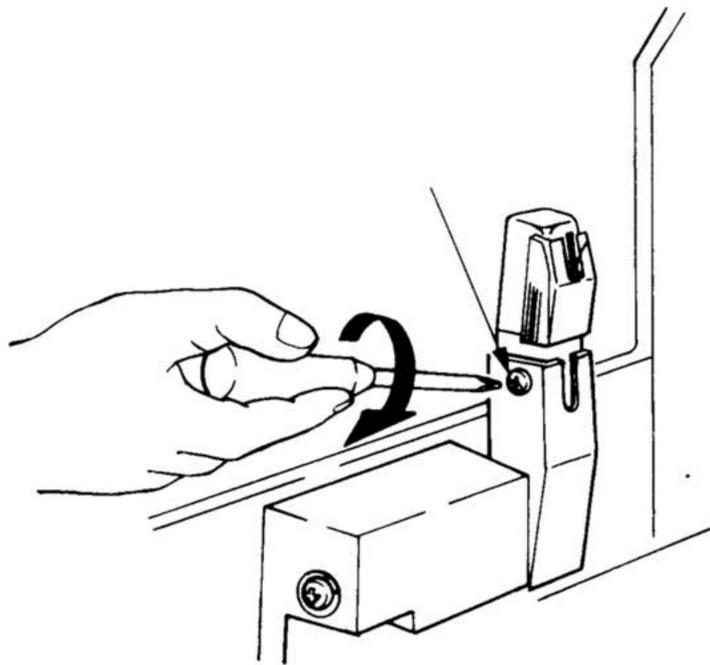
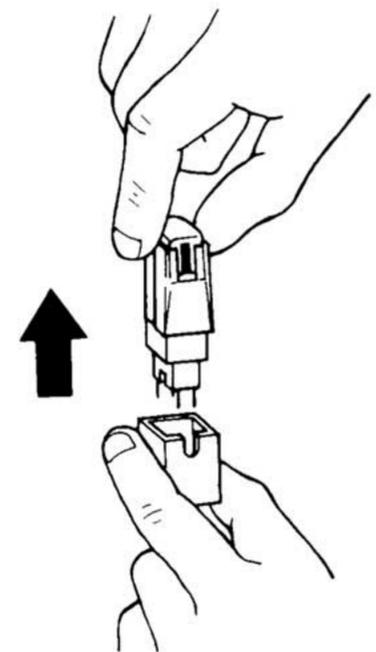

Fig. 4
Fig. 5
- As with "Replacing the stylus" move the tonearm slightly toward the inside using the tonearm "in" button "◀" ②.
- Remove the screw that holds the cartridge with a small screwdriver (see Fig. 4), hold the tonearm and pull out the cartridge gently (see Fig. 5).